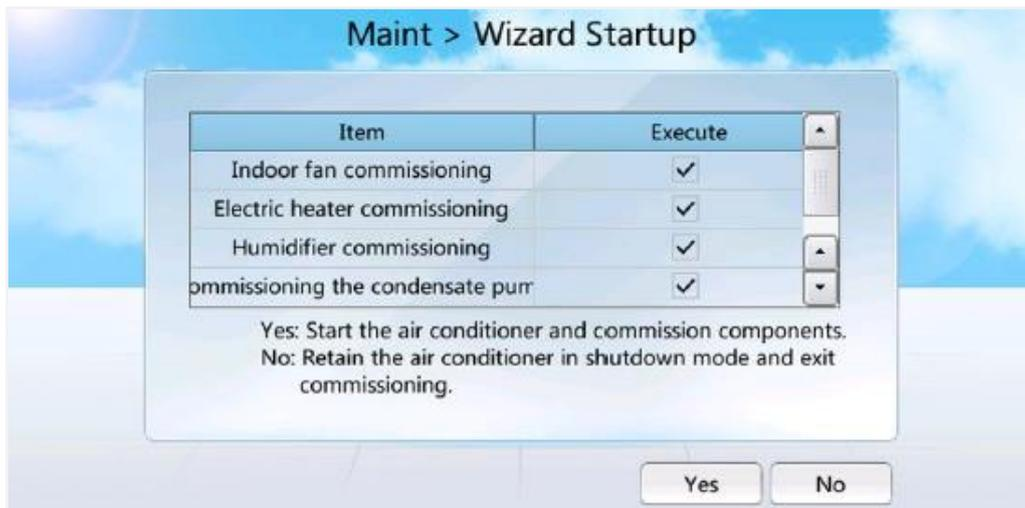

Figure 3-3 Selecting commissioning items
Step 4 Tap **Yes** and enter the screen where you select commissioning items, as shown in Figure 3-3.